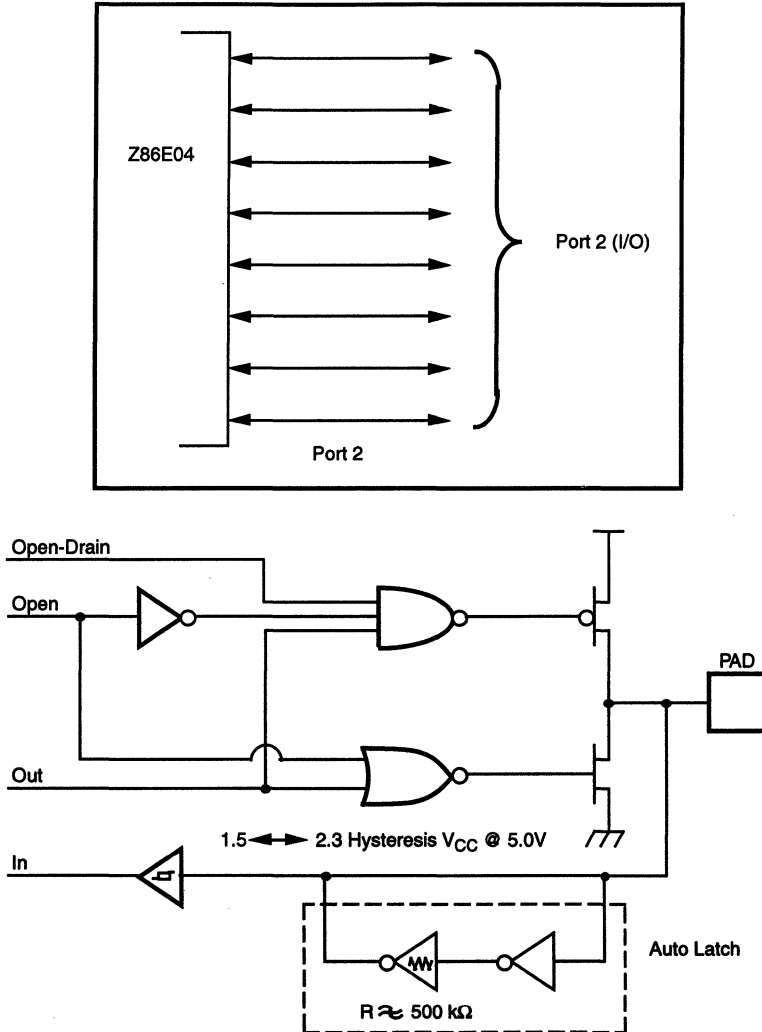

**Figure 5. Port 0 Configuration**
**Port 0, P02-P00.** Port 0 is a 3-bit bi-directional, Schmitt-triggered CMOS compatible I/O port. These three I/O lines can be globally configured under software control to be an input or output (Figure 5).